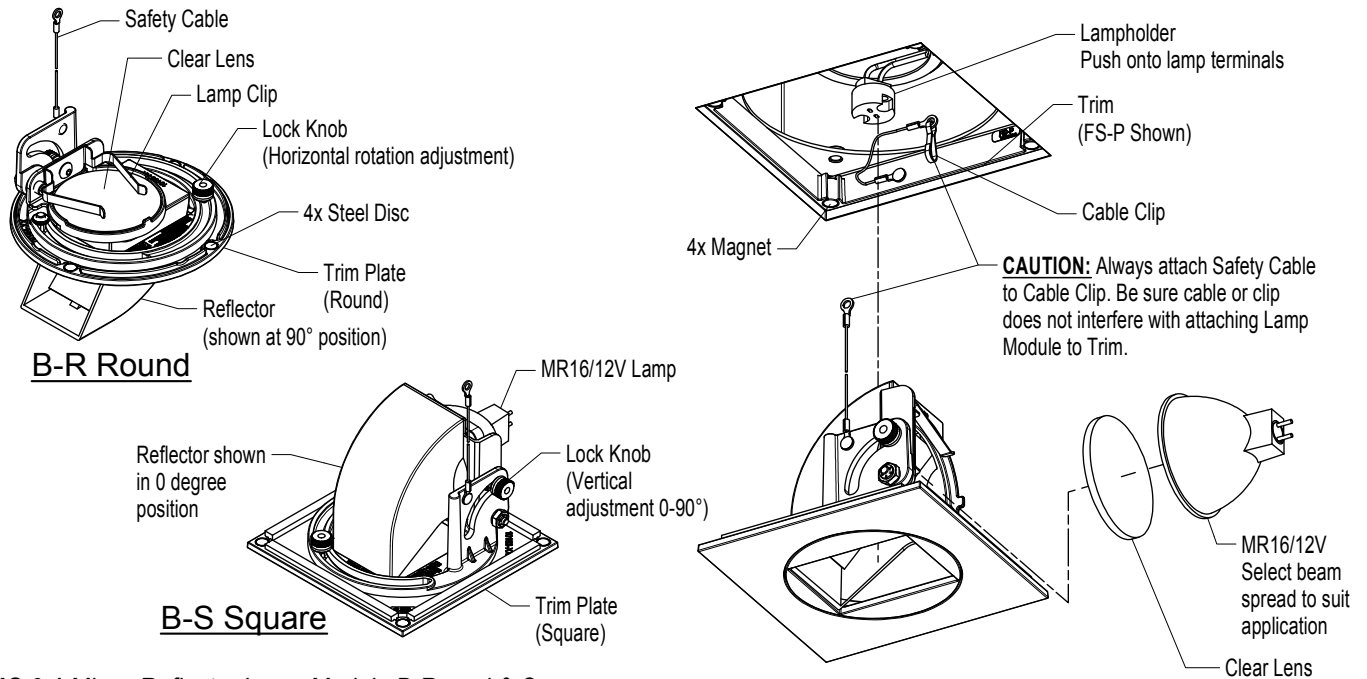

FIG 3.1 Mirror Reflector Lamp Module B-Round & Square
STEP 2 B Lamp Module: Adjust reflector horizontal & vertical aiming angle as needed & secure with Lock Knob into position desired - Fig 3.1.
STEP 3 Secure Safety Cable to Cable Clip. Line up steel Discs in Trim Plate with Magnets in Trim then install Lamp Module into Trim in position desired - Fig 3.1 & 3.2.